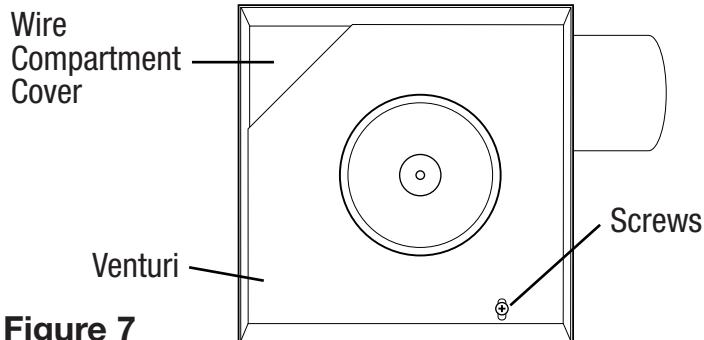
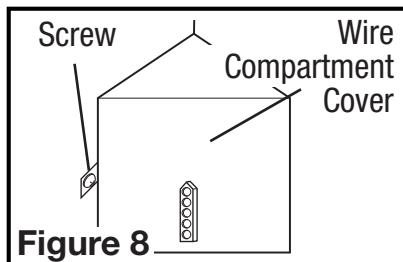

Figure 7
Figure 8
- Internal Wire Compartment:** Remove the screw holding the venturi in place. Lift the venturi up and at an angle to slide it out of the housing (Figure 7). Remove the wire compartment cover screw and place the cover in a secure place (Figure 8).